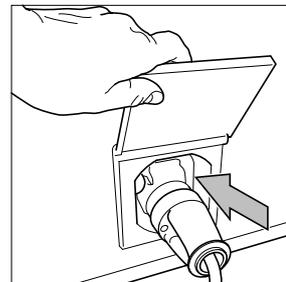

Fig 2
- 7) Insert the connector on the flexible supply cable (Fig 2).